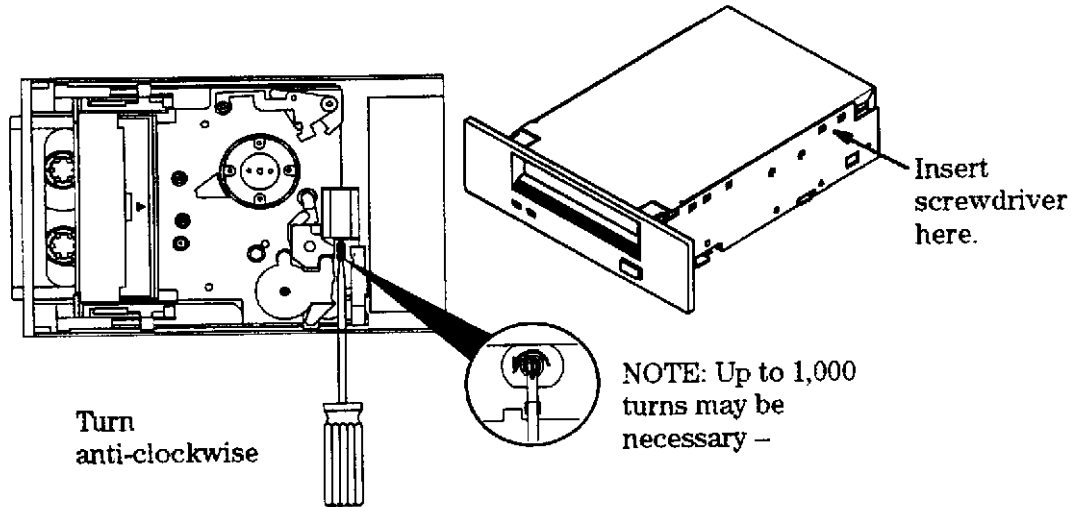

Figure 8-36. Manual Cartridge Removal
4. See Figure 8-36. Insert a size 00 cross head screwdriver through the emergency eject access hole. (Some early revisions of the mechanism have single slots in the end of the worm gear, use a flat blade screwdriver in this case.)